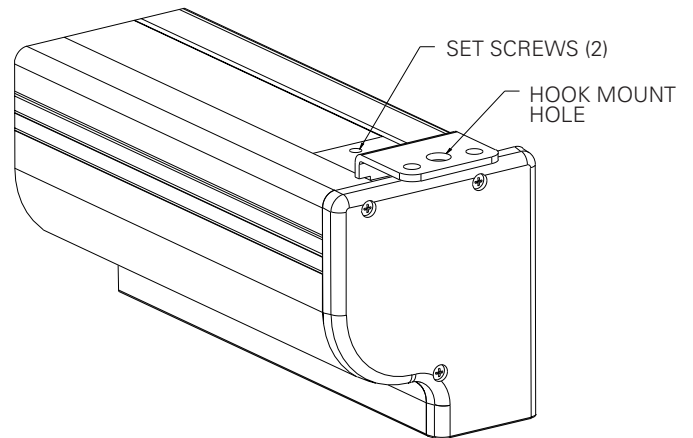

FIGURE 3
2. The top of the screen case has a channel that the ceiling hook brackets slide into. The brackets can be attached anywhere along the length of the case. Loosen the set screws on the brackets and slide the brackets to the desired location. Lock the brackets in place by tightening two set screws. Refer to figure 3.